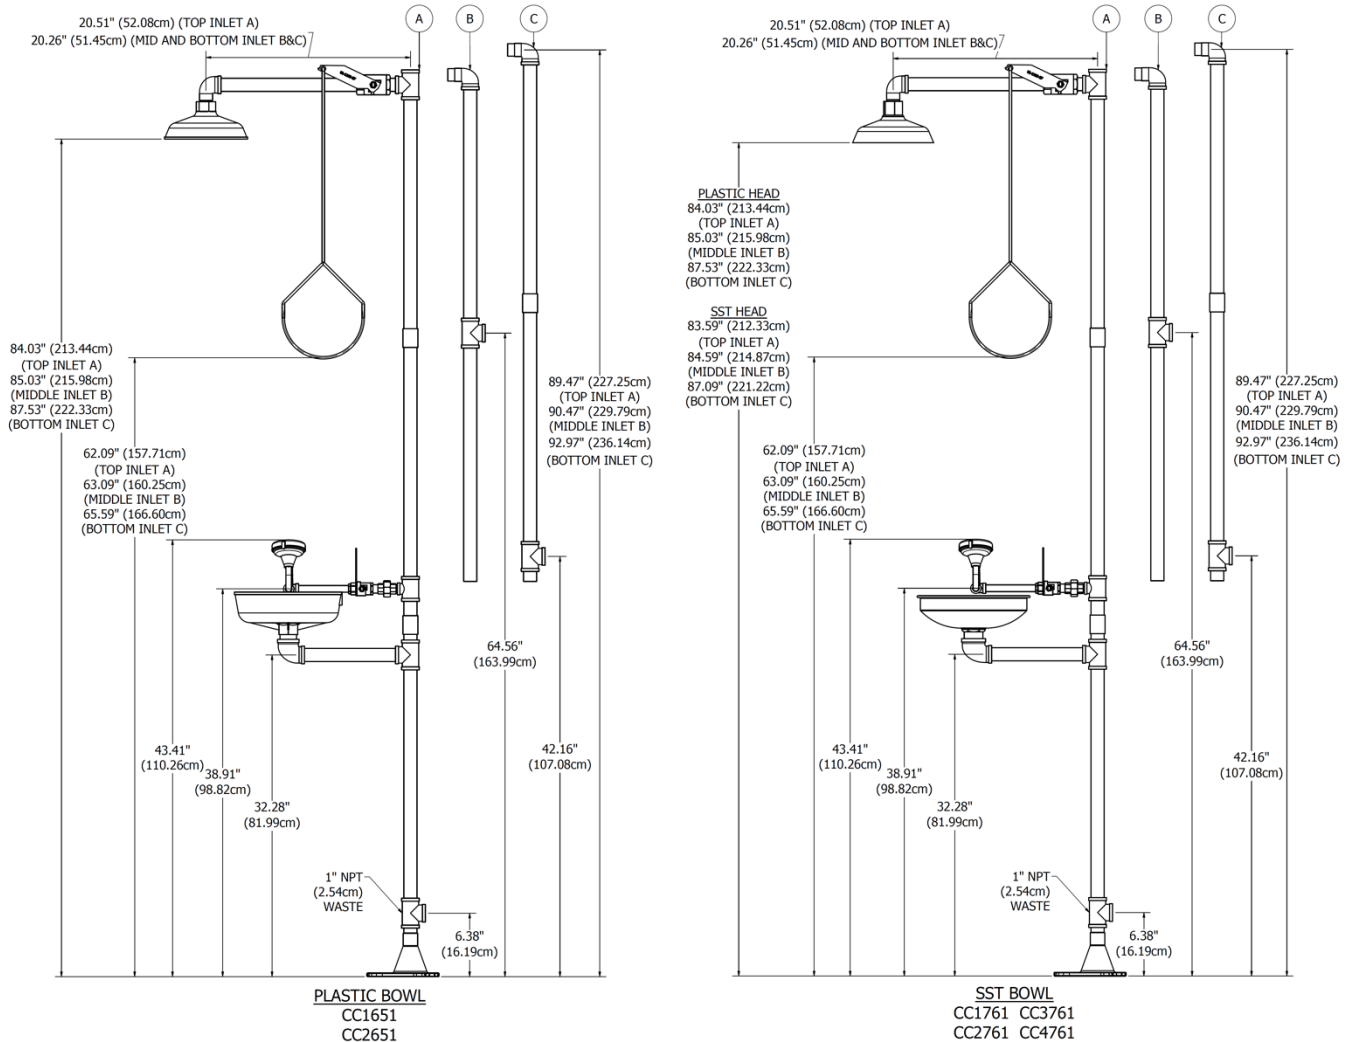

FIGURE 1
5. Assemble components in order based on sequence numbers provided on **Figure 4** first then the sequence provided in **Figure 5**. The fittings used for each inlet option A, B, or C (see **Figure 1** and **notes** on Page 1) are indicated in sequence #2, #4 and #6